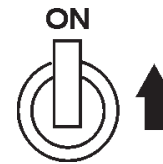

Figure 21. GFCI Circuit Breaker (ON)
- Place **GFCI** circuit breaker (Figure 21) in the **ON** position.